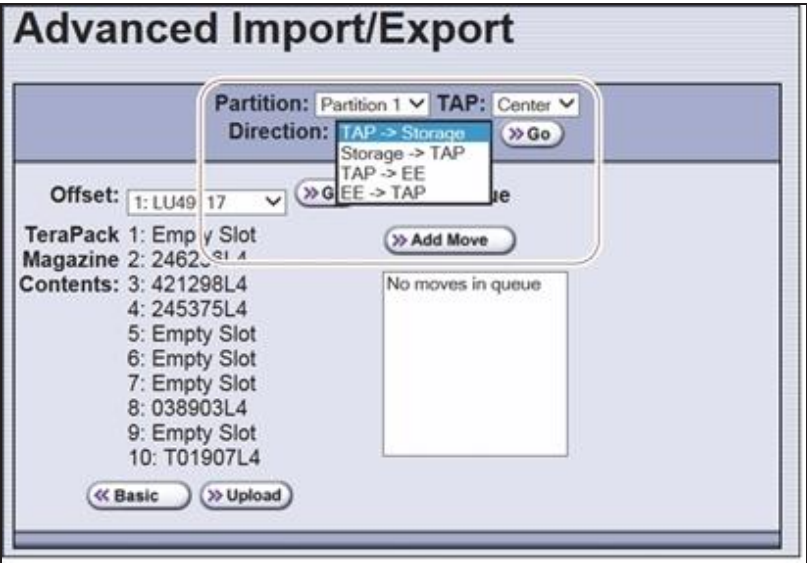

Figure 153 Select the partition, TAP, and the direction of the move.
- c. On the Advanced Import/Export screen (see Figure 153 on page 269), click **Upload**. The Upload Media Exchange Move List screen displays.